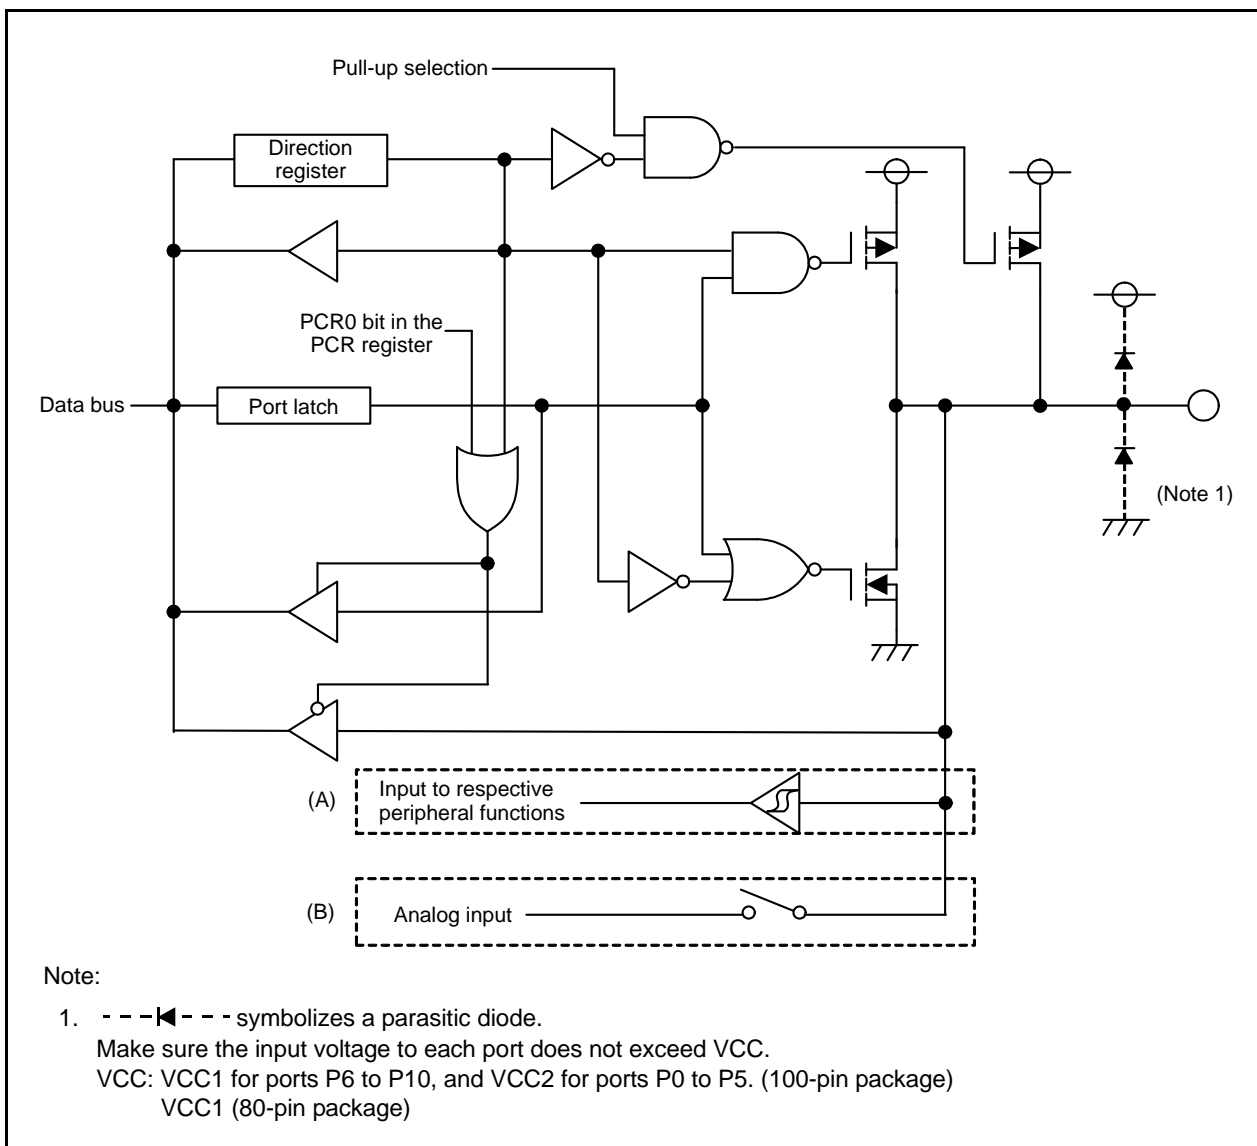

Figure 13.3 I/O Ports (Port P1)
Peripheral function input (A) in Figure 13.3	Analog input (B) in Figure 13.3